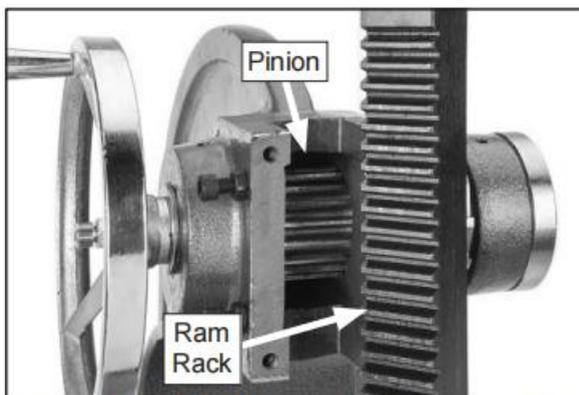

Figure 11. Ram rack and pinion exposed after removing front plate.
1. Remove front plate, then remove the ram to expose the pinion and rack (see **Figure 11**).